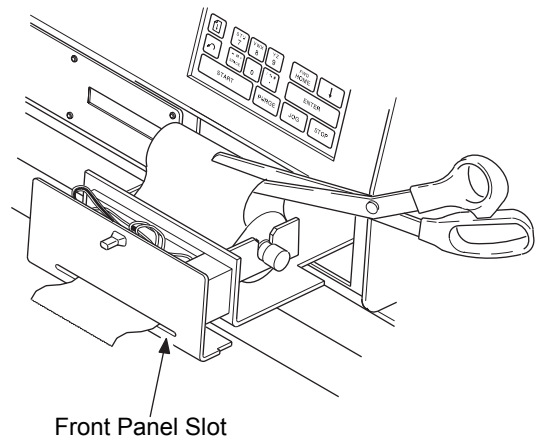

Figure 83 Clearing a Paper Jam
4. Cut the paper off at the roll. Carefully remove the paper in the data recording printer mechanism by advancing the Manual Feed Wheel or using tweezers or small needle nose pliers. Remove the paper through the front panel. See Figure 83.